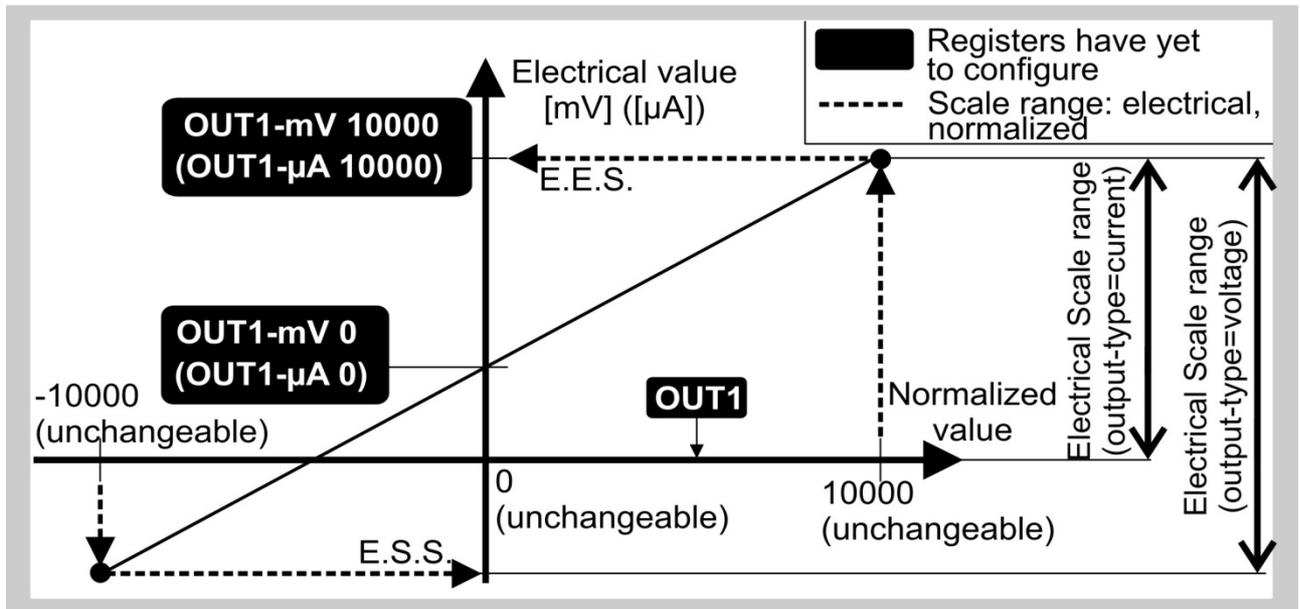

Fig.1 – Description of output configuration (step 1 and step 2)
- 1) **configure the register “OUT1-mV 0” (“OUT1- μ A 0”) corresponding to the normalized value=0 and “OUT1-mV 10000” (“OUT1- μ A 10000”) corresponding to the normalized value=10000 (figure 1);**
- 2) **configure the register OUT1: it is the normalized value corresponding to the desired electrical value available at the screw terminals (mV or μ A) (figure 1);**